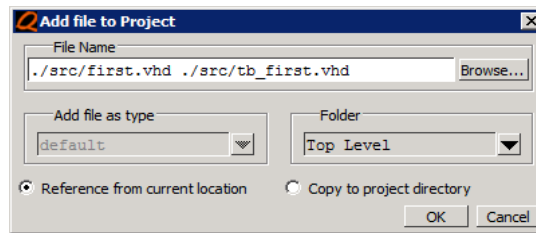

Figure 7. Add source files (2)
*Note: By default, Questa will refer to the selected source files by their full absolute path (M:/inf3430/lab1/cookbook/src/first.vhd). In Figure 7 the paths have been modified to a path relative to the project location (./src/first.vhd). **This step is not necessary** to make the project work but is useful **if you ever decide to move the project**.*